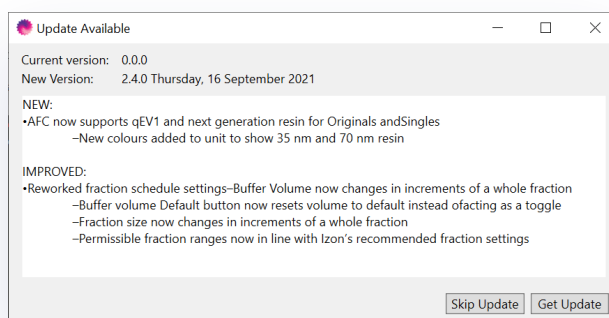

Figure 19: Click **Get Update** to download the latest version of the AFC Operating Software.
3. Once installed, the AFC Software Updater will automatically check to see if the latest version of the AFC Operating Software has been downloaded. If an update is available, the Software Updater will display the release notes for the latest version as shown in Figure 19 below.